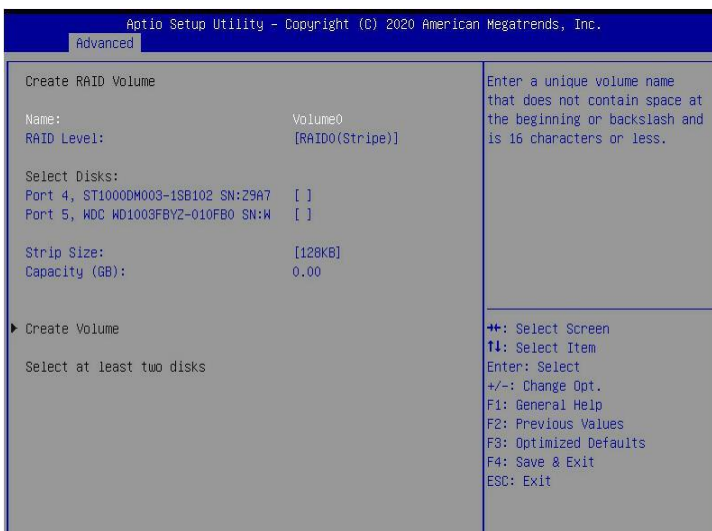

Figure 6-5
a) Change the name of the created raid, and note that it cannot contain special characters. Figure 6-5
❖ Figure 6-5 Create RAID name